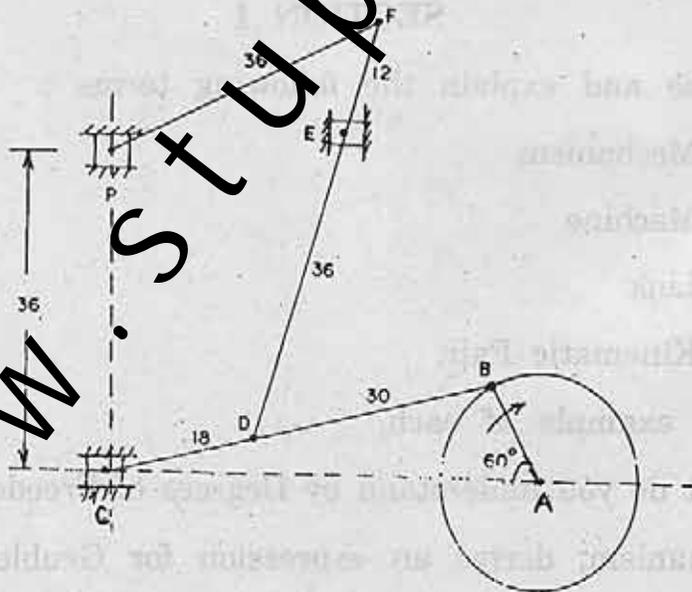

Fig. 1
3. (a) In a steam engine mechanism, shown in Fig. 1, the crank AB rotates at 200 rpm. Find the velocities of C, D, E, F and P. Also find the acceleration of the slider at C. The dimensions of the various links are AB = 12 cm, BC = 48 cm, CD = 18 cm, DE = 36 cm, EF = 12 cm and FP = 36 cm. [12]